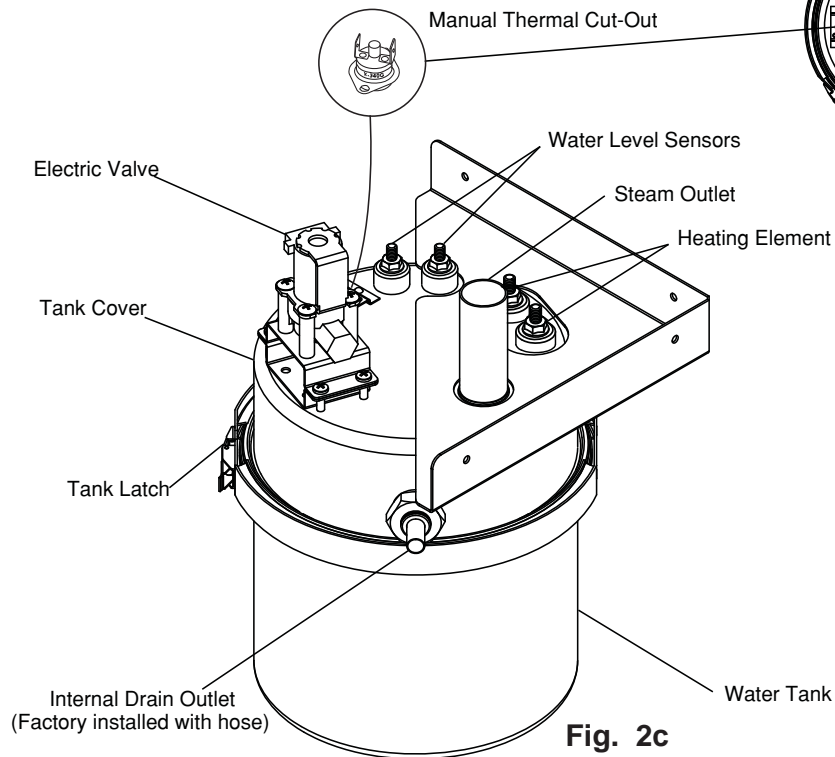

Fig. 2c
2.3 Water tank Side View. Please see Fig. 2c.